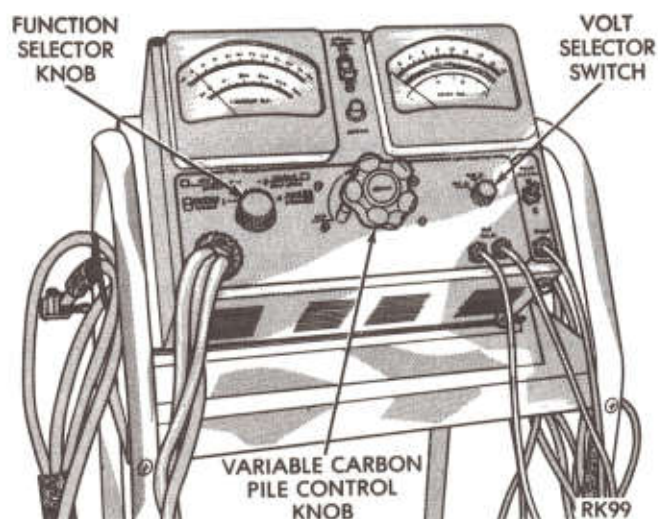

Fig. 8—Volt-Ammeter Tester
(2) Observing polarity, connect a voltmeter and a battery load tester across battery terminals (Fig. 8).